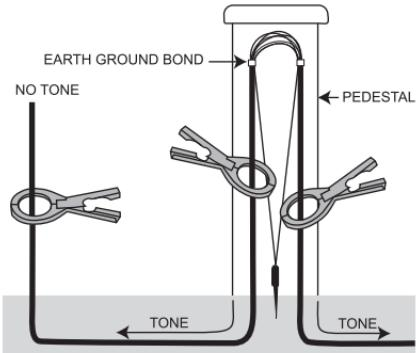

Fig. 10. Coupling Points
Applying the coupler above the bond will effectively "block" the tone from transmitting past the grounding point. (See Fig. 10) By strategically placing the clamp in the direction of the transmitter, tone may be controlled.
- Near End Coupling:** To supply tone from the end of a cable, the end of the cable must be bonded or grounded. (See Fig. 10)